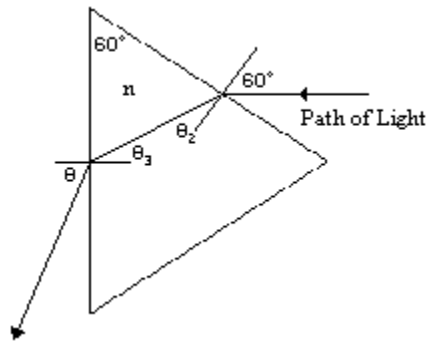

Figure 2: Path of light through prism.
- You will need to measure the angle to the white light that passes directly through the spectrophotometer and under the prism. This angle is subtracted from all angles, so that all angles are referenced from the parallel beams that are incident on the spectrophotometer (see the angle θ in Figure 2).